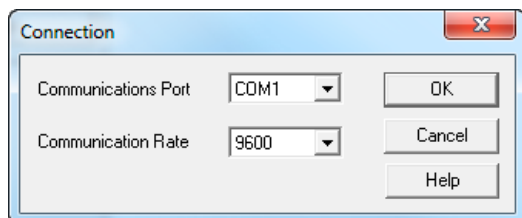

Figure 7-5
- Click the **Configure Instrument** button and the **Connection** window will appear (see Figure 7-5).
NOTE: The instrument must be configured for the same communications rate specified in Figure 7-5. If it is not, then you must either select the corresponding rate or change the instrument's rate.